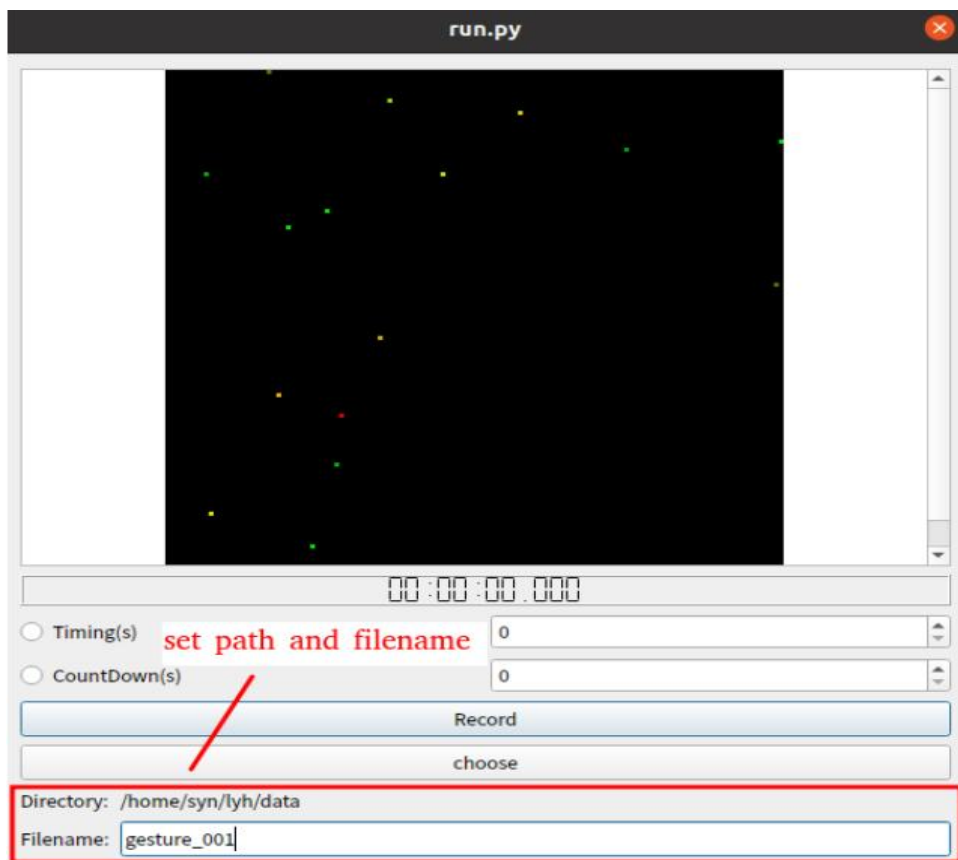

Figure 13: Set path for DVS recorder
2. Set storage path and filename as is shown in Figure 13.